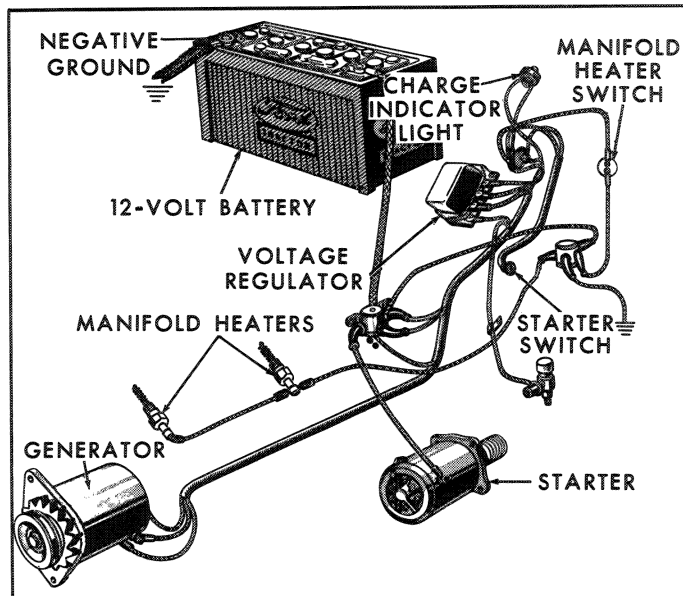

Figure 35—Manifold Heater Electrical Circuit
The heaters are actuated by a switch relay and the necessary wiring as shown in Figure 35.
2. Open the hood and disconnect the four wires from the manifold heater relay, Figure 35.